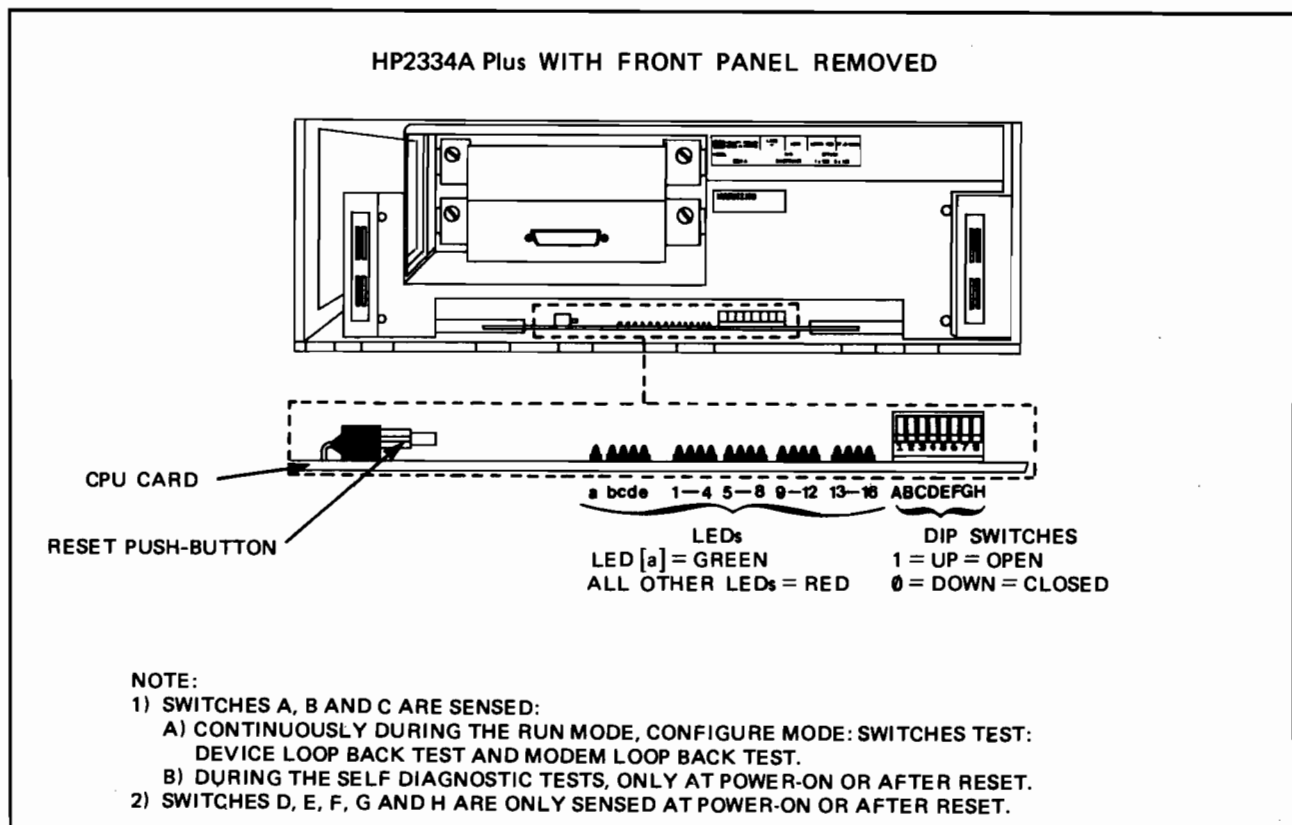

Figure 4-6 CPU Card LEDs and DIP Switches
These tests are configured using the DIP switches mounted on the CPU Card, and correct operation is confirmed by the corresponding CPU Card LED display (see Figure 4-6).
At each power-on (or when the CPU Card's reset push-button is pressed) the HP2334A Plus automatically performs a self test that checks the operation of the CPU Card's microprocessor, RAMs, ROMs, DMA, the internal bus circuitry and the Device Interface Cards. If an error is detected, an error indication is displayed on the CPU Card LEDs (see Figure 4-6).
To ensure the correct default configuration will be implemented, remove the front panel and set the DIP switches (see Figure 4-6) in one of the following configurations:
**Procedure.** To perform the power-on test, simply switch ON the HP2334A Plus (or if it is already ON, press the Reset push-button shown in Figure 4-6).
**Preparation.** To select this test, remove the HP2334A Plus front panel and set the CPU card DIP switches (see Figure 4-6) as follows: